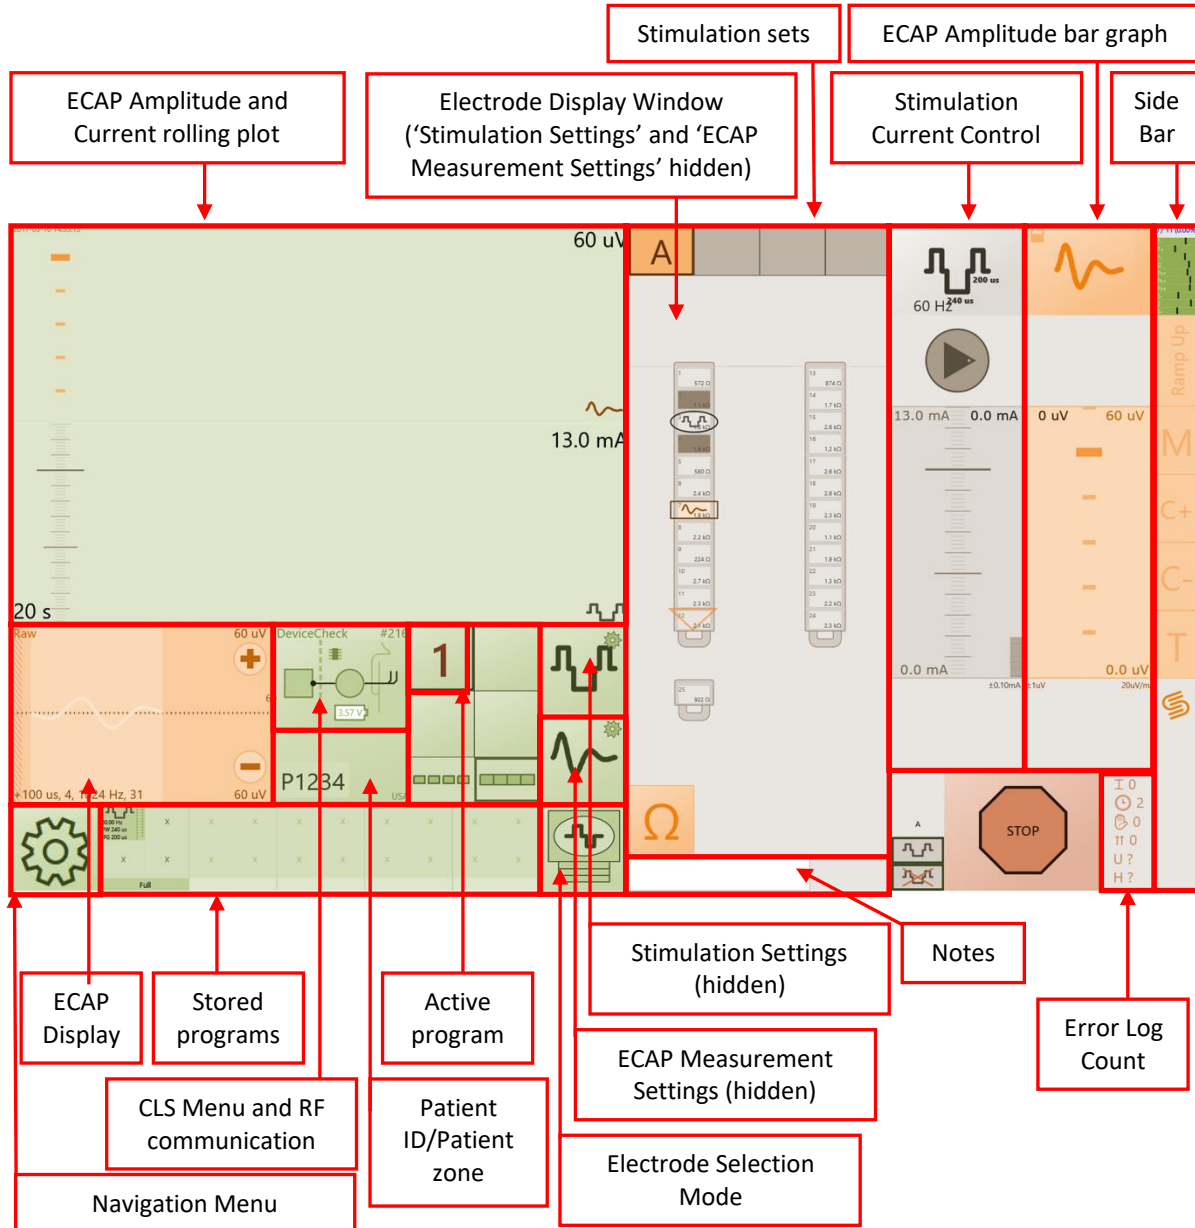

Figure 6.2: Functional layout of the CPA main screen.
1. Position the CST near the stimulator and double-touch the Evoke Clinical Programming Application (CPA) icon  to start the CPA (see Figure 6.2 for the main screen layout).
1. Check that the time and date on the CI are correct (top left corner of CPA screen, Figure 6.2). Refer to the CI instructions (see Section 5.1 for link) to change the time and date.
2. Change the *Electrode Selection Mode* icon (see Figure 6.2) until the *Automatic Electrode Selection* icon  is displayed.